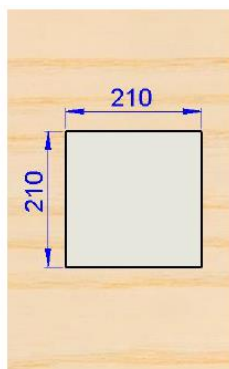
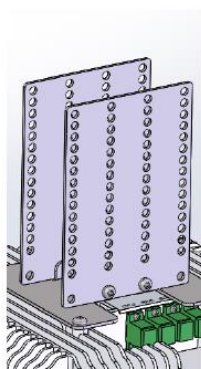
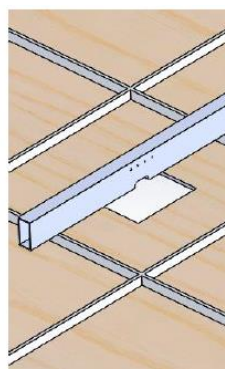
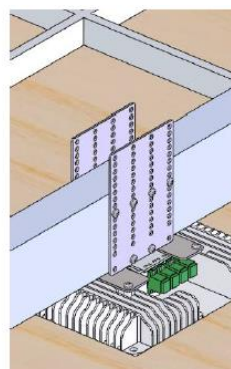

Figure 3-26
Figure 3-27
Figure 3-28
Figure 3-29
**Step 1.** Select an area for installation near ceiling. Drill the square holes per (Figure 3-26). Use the Screw(M4X12) to cross the pore plate and IRU-O module (Figure 3-27). Use metal wire mount the beam onto the ceiling keel (Figure 3-28). Use the Screw(M4X12) to tighten the pore plate and beam (Figure 3-29)